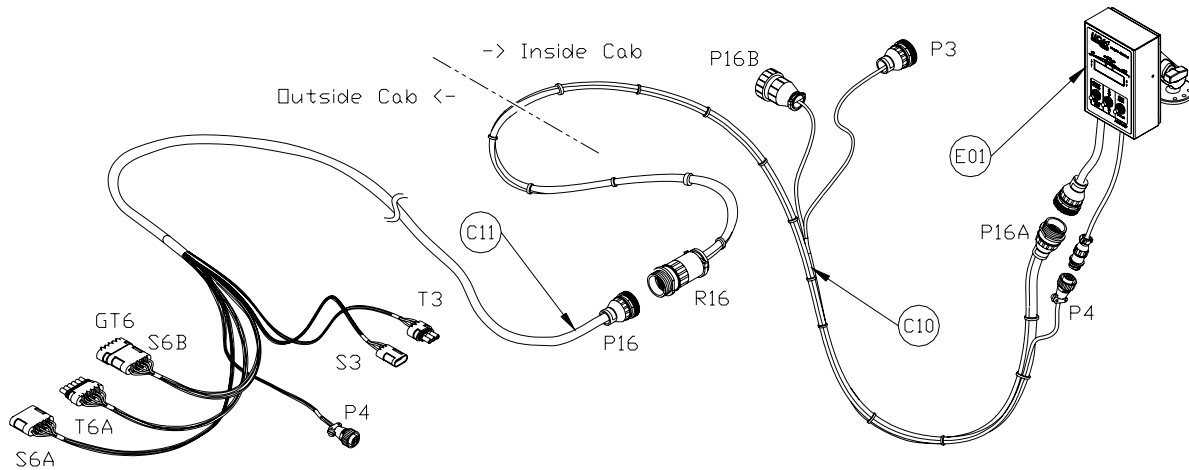

Figure 21 – Cable Configurations: C10 and C11
2. Connect the UC4+ power cable (C10) to the UC4+ Control Panel in the sprayer cab. Ensure that both plugs (P16A and P4) are connected to the receptacles of the panel (Figure 21).
5. Connect the 16-pin AMP plug (P16) of the valve extension cable (C11) to the free end (R16) of C10 on the outside of the cab (Figure 21).